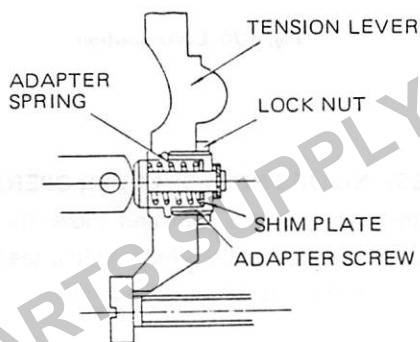

Fig. 4-65
- (1) Move the adjusting lever to full load position and fix it. Install the adapter assembly to the lower end of the tension lever.
- (2) Adjust the adapter screw so that the rod travel will become R_2 mm when driving the pump at N_2 rpm. Screwing the adapter screw increases the rod travel and unscrewing reduces the rod travel.
- (3) Adjust the spring tension with shims so that with the pump speed at N_3 rpm, R_3 mm rod travel is obtained. Add, reduce or replace shims between the adapter spring and adapter screw (Fig. 4-65).